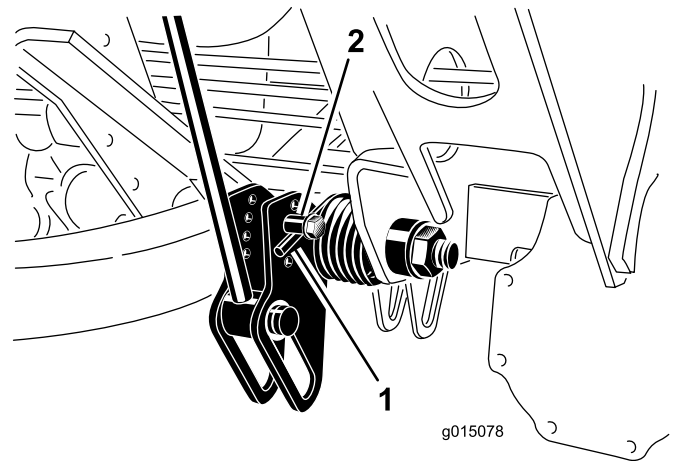

Figure 39
2. Insert a tube or similar object onto the long spring end to relieve the spring tension during the adjustment (Figure 39).
3. While relieving the spring tension, remove the bolt and locknut securing the spring actuator to the bracket (Figure 39).